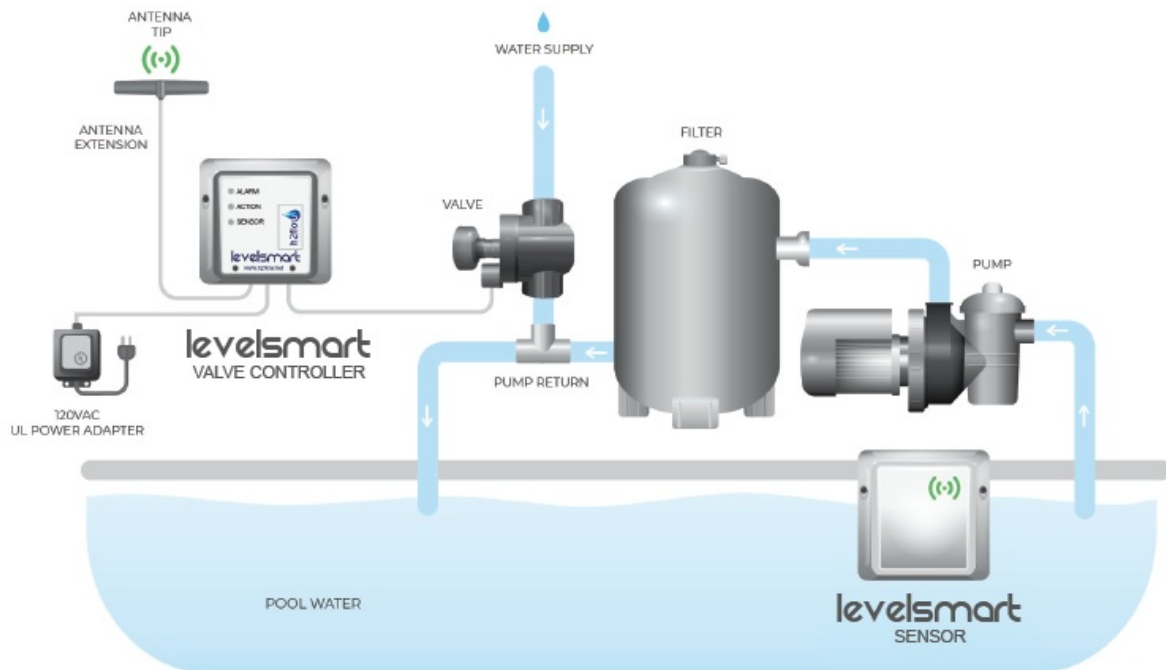

Fig.1.0
- The schematic (Fig.1.0) on page 4 of this manual shows a typical LevelSmart installation.